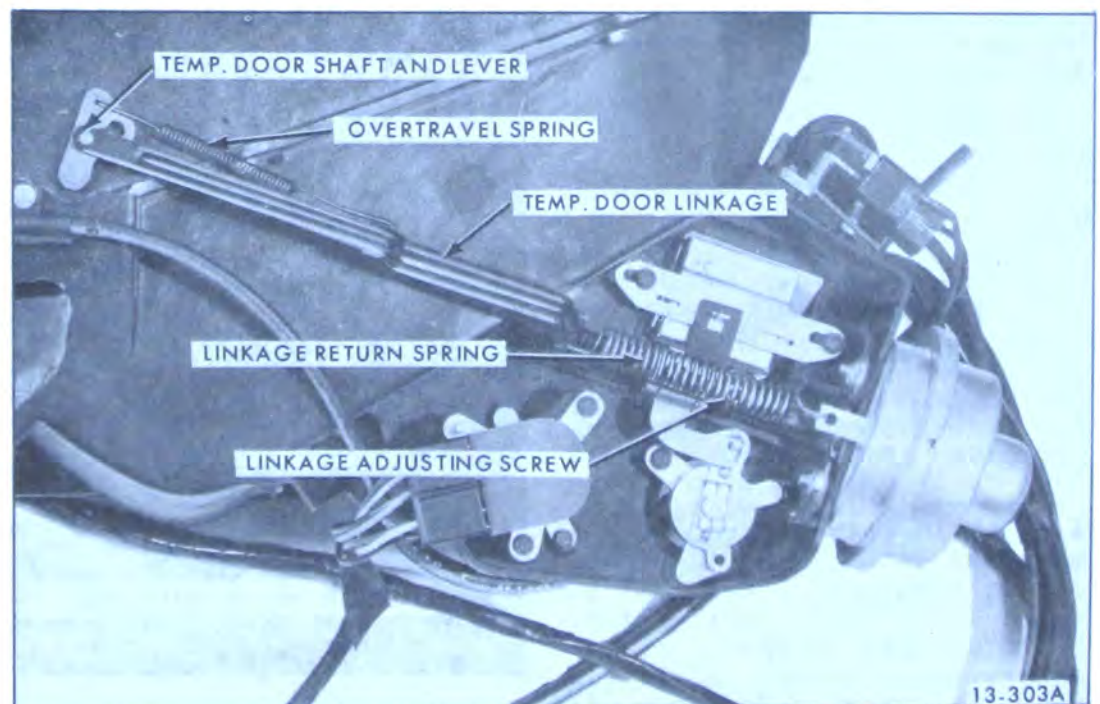
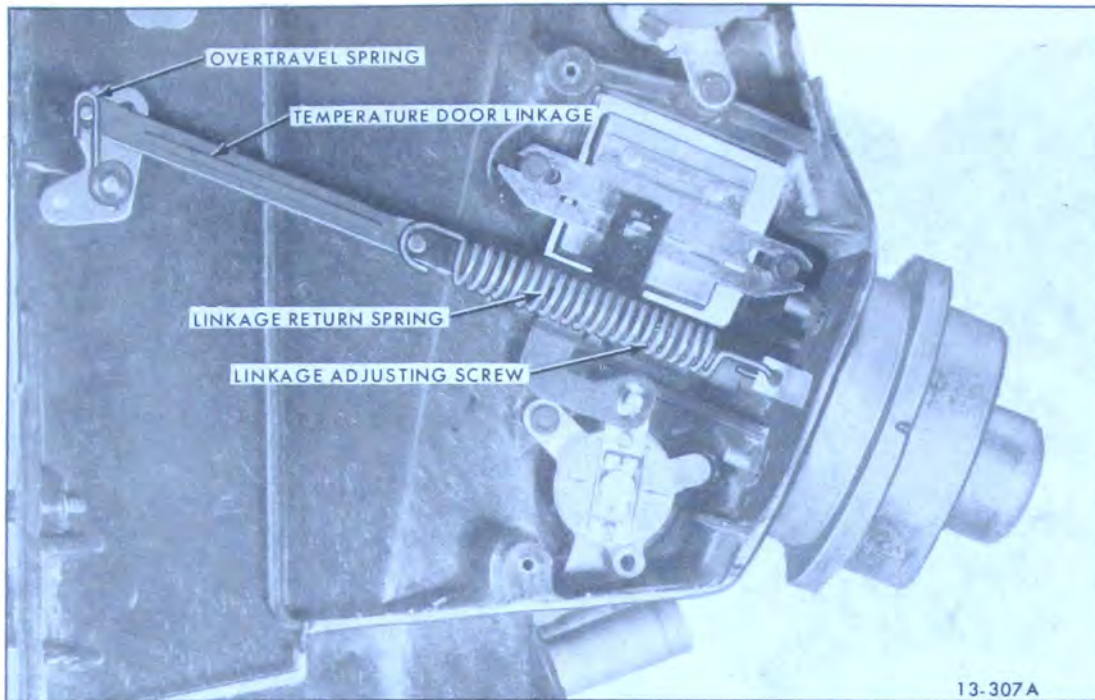

Figure 13-206 45-46-48000 Series PVA Linkage
Figure 13-207 49000 Series PVA Linkage
4. Disconnect linkage return spring. 45-46-48000 Series see Figure 13-206. 49000 Series see Figure 13-207.
5. Loosen temperature door linkage adjusting screw. 45-46-48000 Series see Figure 13-206. 49000 Series see Figure 13-207.